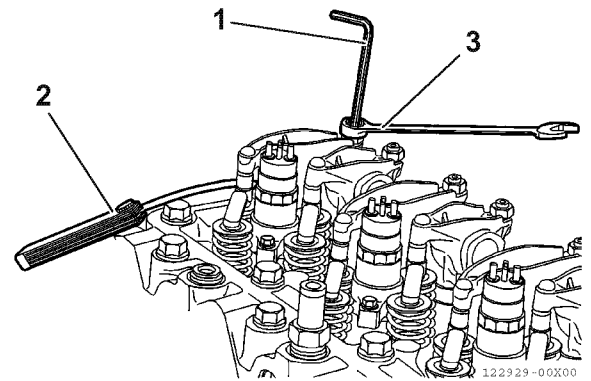

**Figure 23**
3. Correctly position the cover (Figure 23, (3)) and tighten the nuts (Figure 23, (1)), (Figure 23, (2)) to the specified torque.
Belt protection cover (2 nuts M8 X 1.25) (Figure 23, (1))	21 ± 2 N·m
Belt protection cover (3 nuts M8 X 1.25) (Figure 23, (2))	30 ± 3 N·m